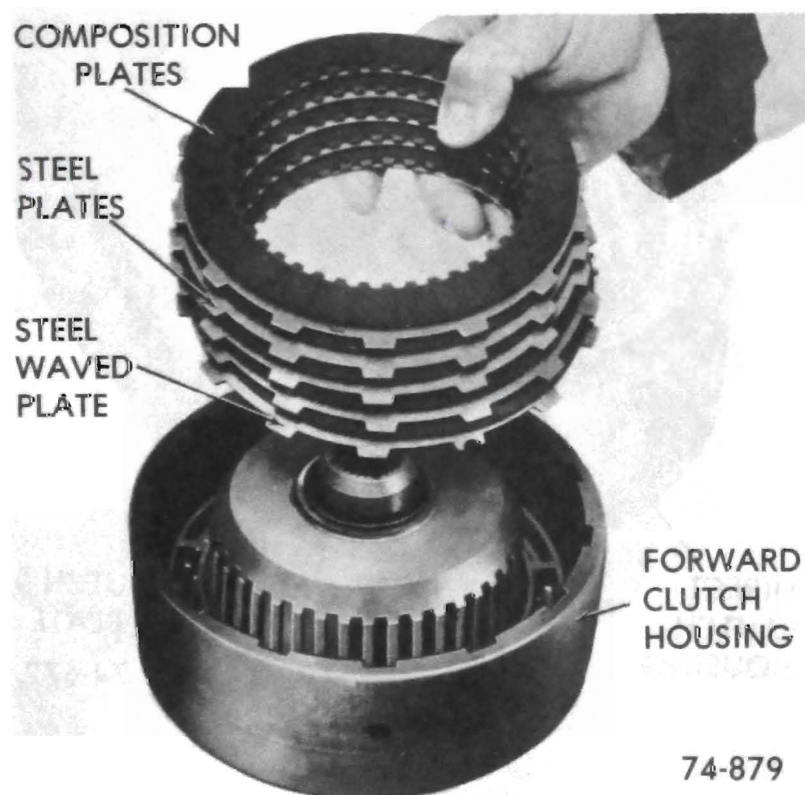

Figure 76-192
10. Oil and install five (5) radial groove composition, four (4) flat steel clutch plates and one (1) waved steel plate (plate with "U" notches), starting with waved steel and alternating composition and steel plates. See Figure 76-192.